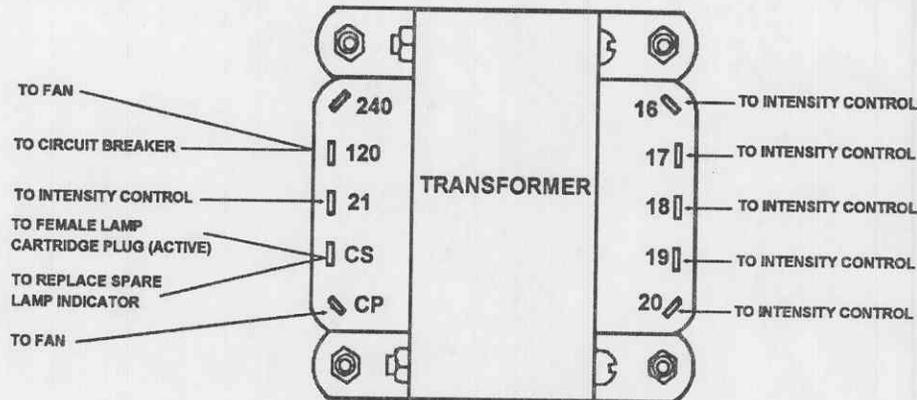

Figure 3-10. Power transformer connections.
- f.* Refer to figure 3-10 and locate the 120-volt and 240-volt terminals on each power transformer. Transfer the wires/terminals connectors from each 120-volt terminal to each 240-volt terminal.